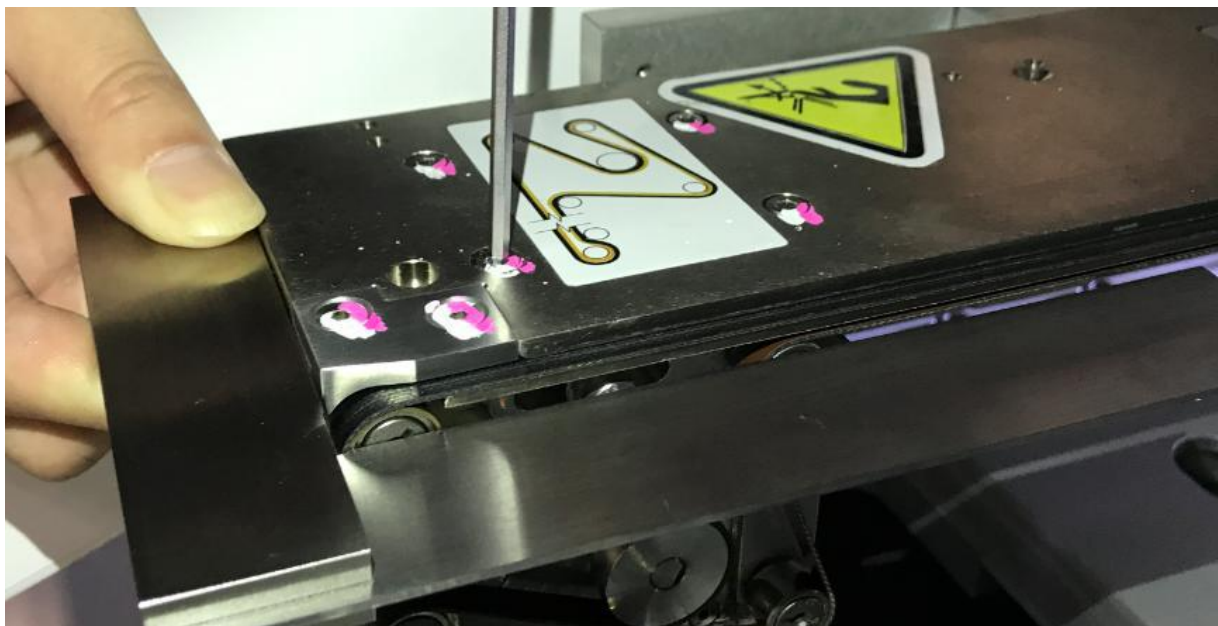

Figure 44 Fix Rail Mount Pulley Alignment
- c) Place L-ruler & Align Mount Pulley assembly as below Figure 44. Align Mount Pulley perpendicular with Fix Rail. Next, Tighten 4 x Screws